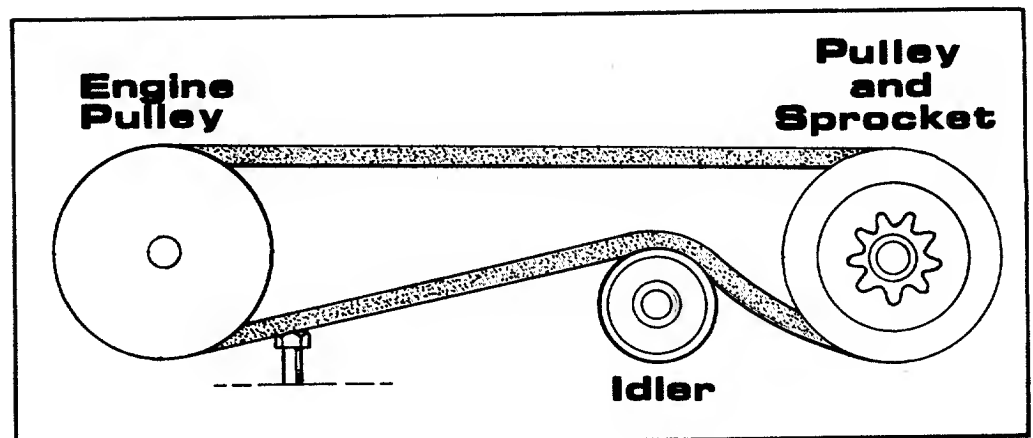

Figure 25
- 9 Install the new belt as shown in figure 25 with the idler under the belt.